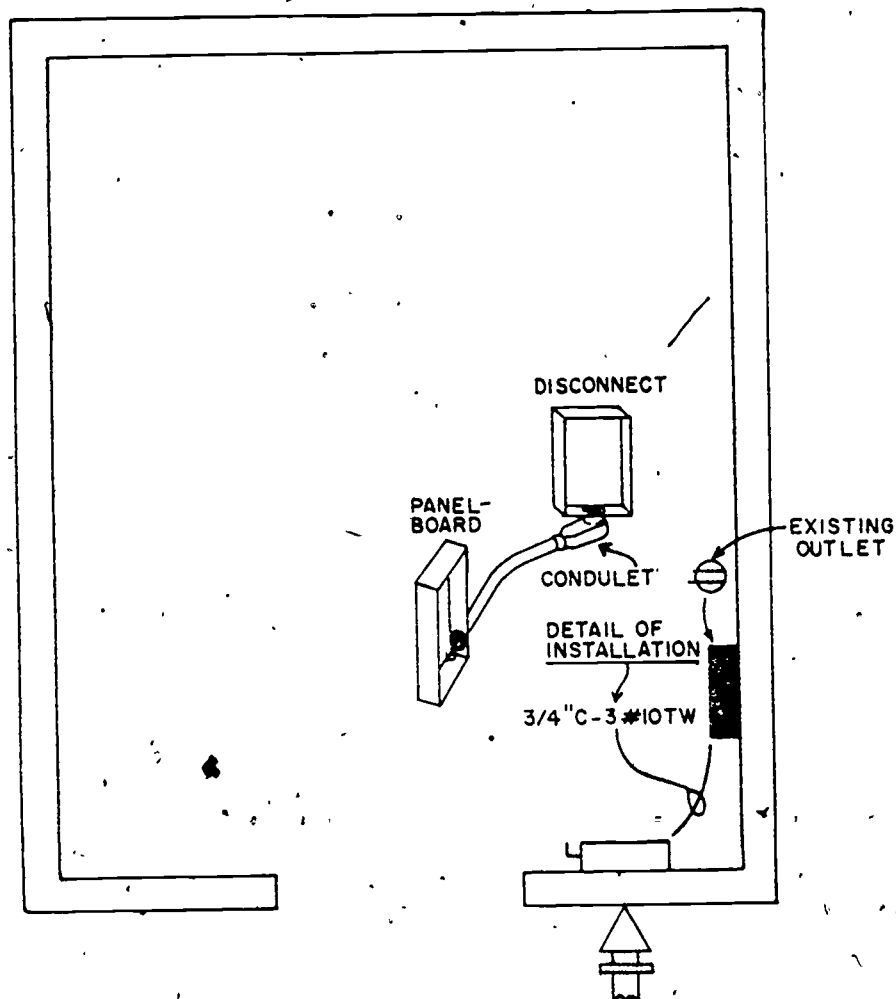

Figure 7. Panelboard Installation
1. Study the blueprint drawing for this project, figure 7.